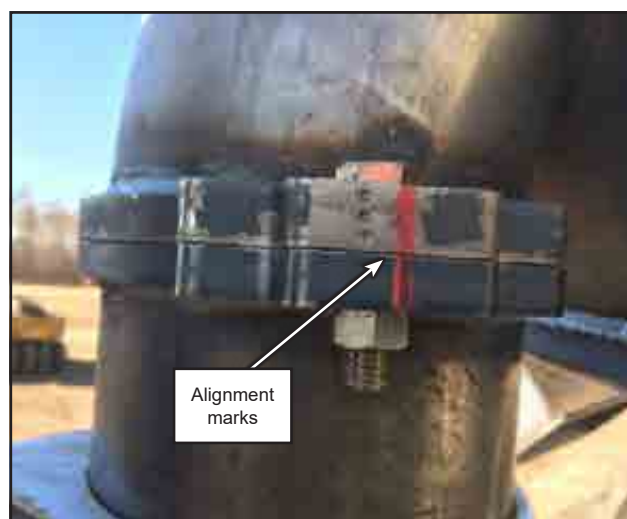

Figure 1.16 - Bolted Side Flange Scribe Marks
- f. Check the alignment marks made in step 3 and adjust the elbow as needed to get the orientation correct. Refer to *Figures 1.16 & 1.17*.